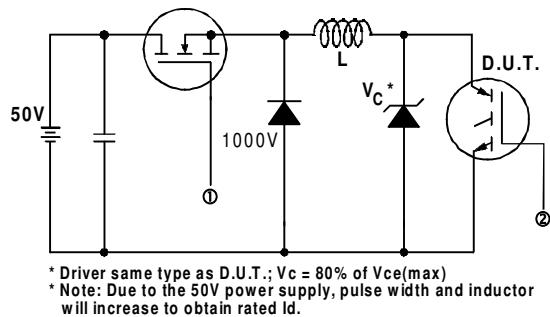

Fig. 13a - Clamped Inductive Load Test Circuit
- ② $V_{CC} = 80\%(V_{CES})$, $V_{GE} = 20\text{V}$, $L = 10\mu\text{H}$, $R_G = 100\Omega$, (See fig. 13a)
- ③ Repetitive rating; pulse width limited by maximum junction temperature.
- ④ Pulse width $\leq 80\mu\text{s}$; duty factor $\leq 0.1\%$.
- ⑤ Pulse width $5.0\mu\text{s}$, single shot.